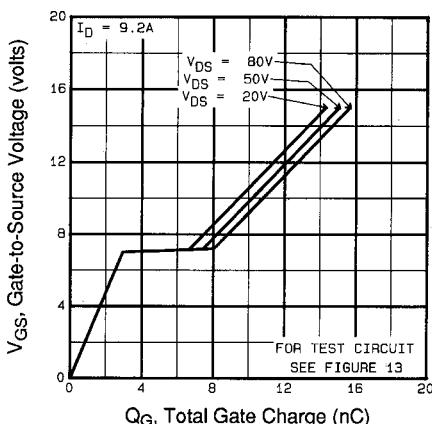

Fig 6. Typical Gate Charge Vs. Gate-to-Source Voltage
| Q_{gd} | Gate-to-Drain ("Miller") Charge | — | — | 7.7 | | $V_{GS}=10\text{V}$ See Fig. 6 and 13 ④ |